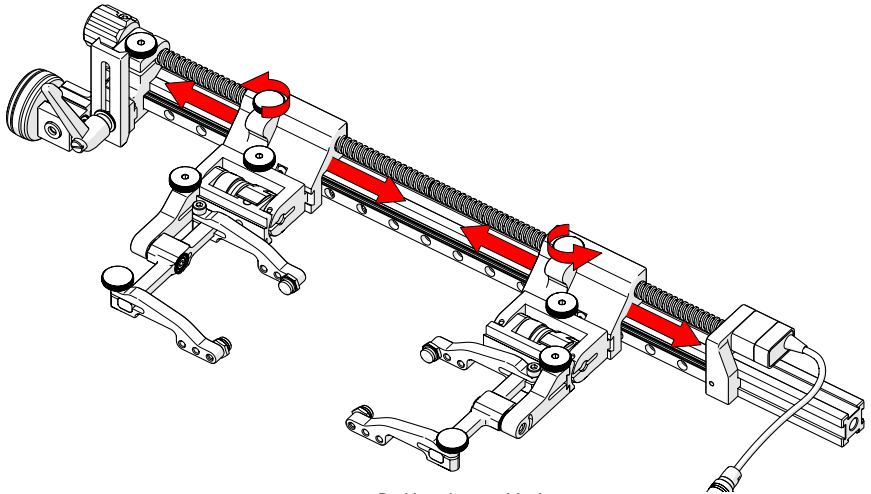

Fig. 167 - Backing plate positioning
2. The knob on the carriage allows for adjustment of the probe holders on the leadscrew (Fig. 167).